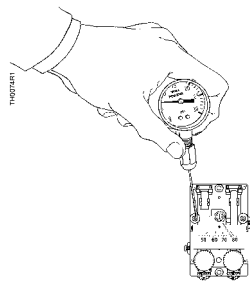

Figure 4. TH192 HC Output Pressure Test Port
The output pressure test port (*Figure 4*) is accessible without removing the thermostat cover through the 8th opening:
3. Moisten the needle and insert the test gauge and needle adapter in the test port (*Figure 4*). Read the control pressure.
Before troubleshooting the thermostat per *Table 1*, make certain there is clean dry supply air at 18 psi (124 kPa) minimum. Use the test probe gauge and needle adapter to measure the control pressure at the output pressure test port (*Figure 4*). The output pressure test port is accessible without removing the thermostat cover through the 8th opening from the top as follows: